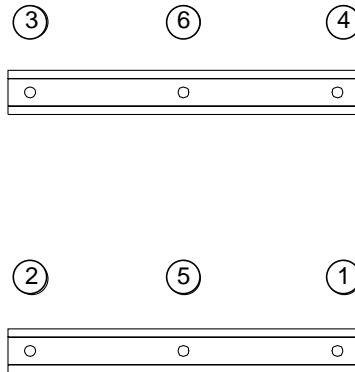

FIGURE 14 Tightening Pattern for the PCI I/O Module
5. Tighten the captive connector screws to a low torque of 0.34 Nm (3.0 inch pounds) in the pattern noted in FIGURE 14 on page 14.
6. Tighten the captive connector screws to a final torque of 0.68 Nm (6.0 inch pounds) in the pattern noted in FIGURE 14 on page 14.